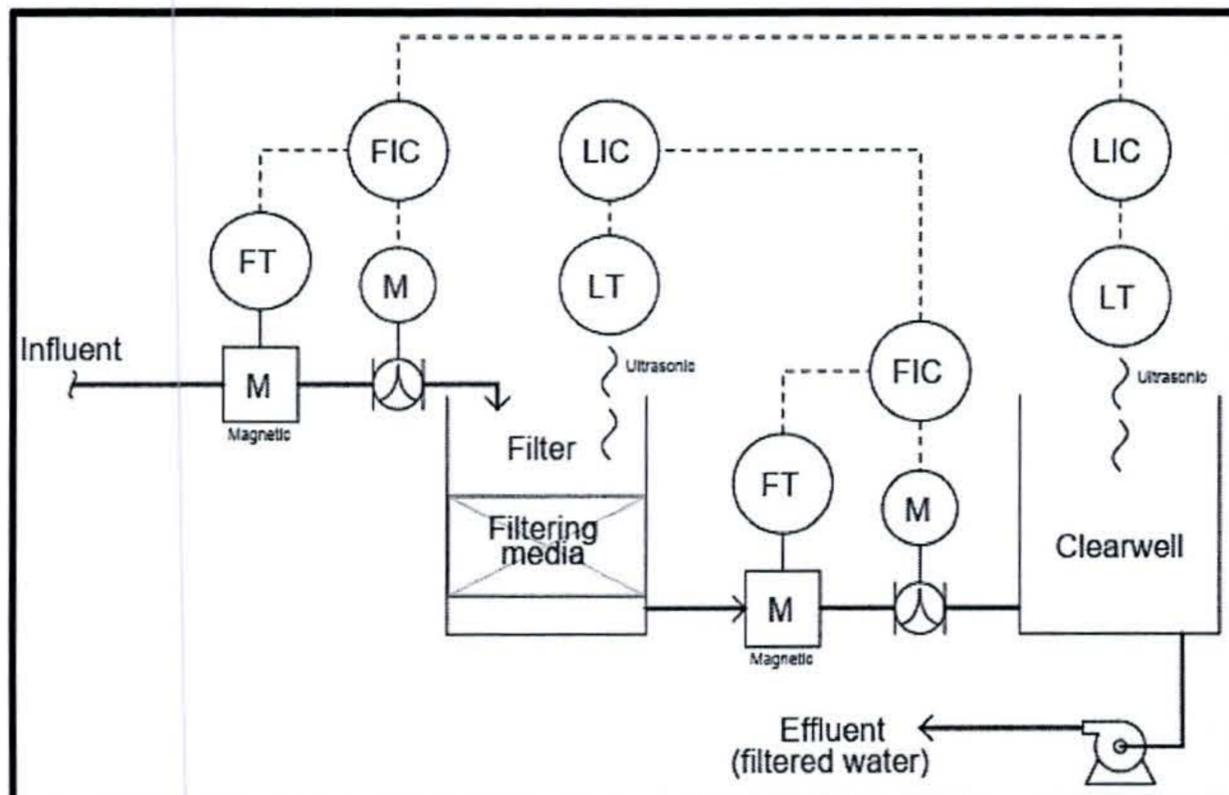

Figure B.3 Water filter control system
- (b) Examine this water filter control system in Figure B.3 , then answer the following questions: